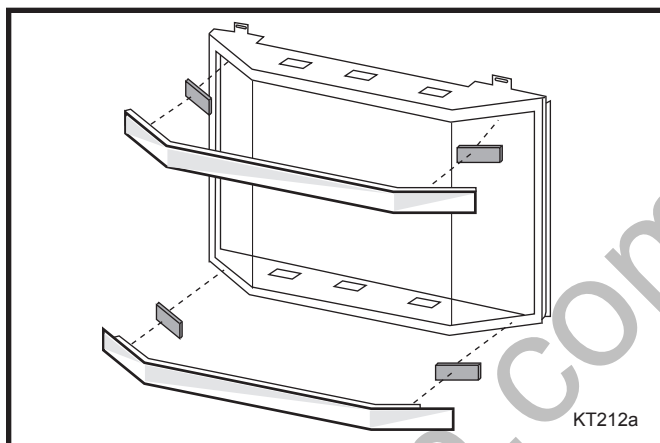

Fig. 37 Attach magnets and brass trim to the steel frame.
7. Install brass trim to the steel frame. (Fig. 37)